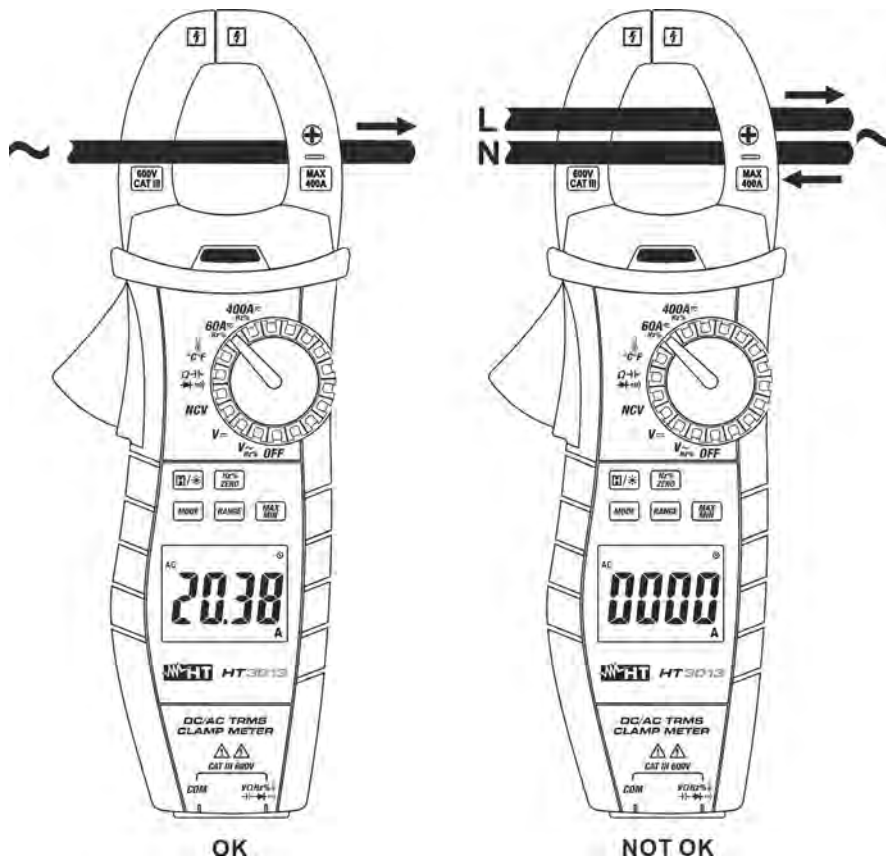

Fig. 11: Use of the instrument for AC and DC current measurement
6. **In DC mode** the “-“ symbol at display means that the meter is connected in the opposite side compared with current direction (see Fig. 11). Follow the polarity indication arrow on the instrument's side (see Fig. 1 – part 13)